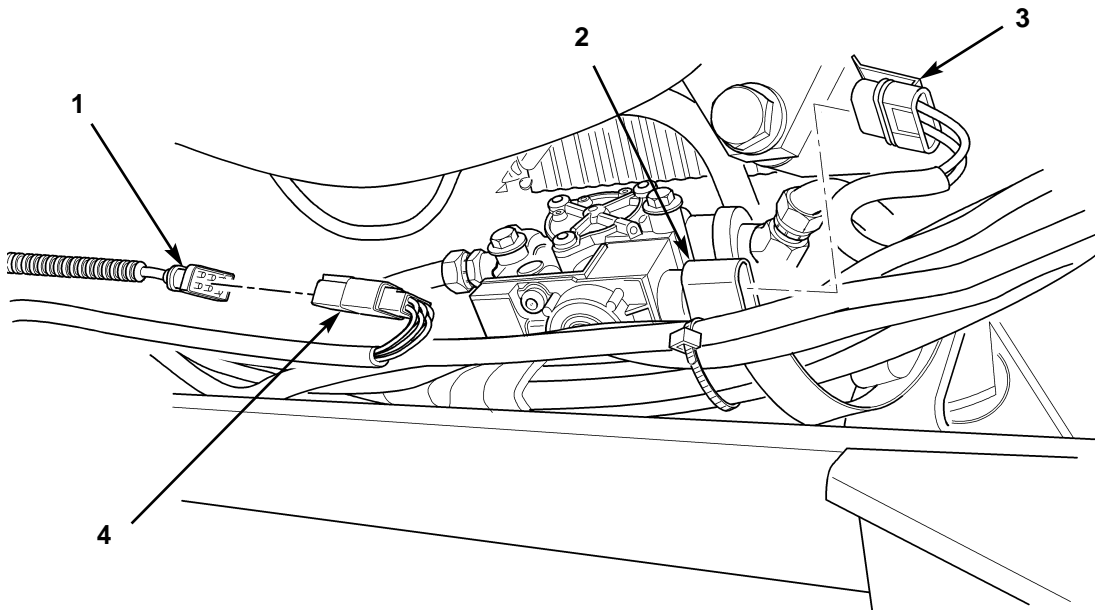

Figure 1. Disconnecting Front Wheel Sensor and Modulator.
1. Disconnect wheel sensor cable (figure 1, item 1) from wheel sensor harness connector (figure 1, item 4) and disconnect modulator harness connector (figure 1, item 3) from front modulator (figure 1, item 2).